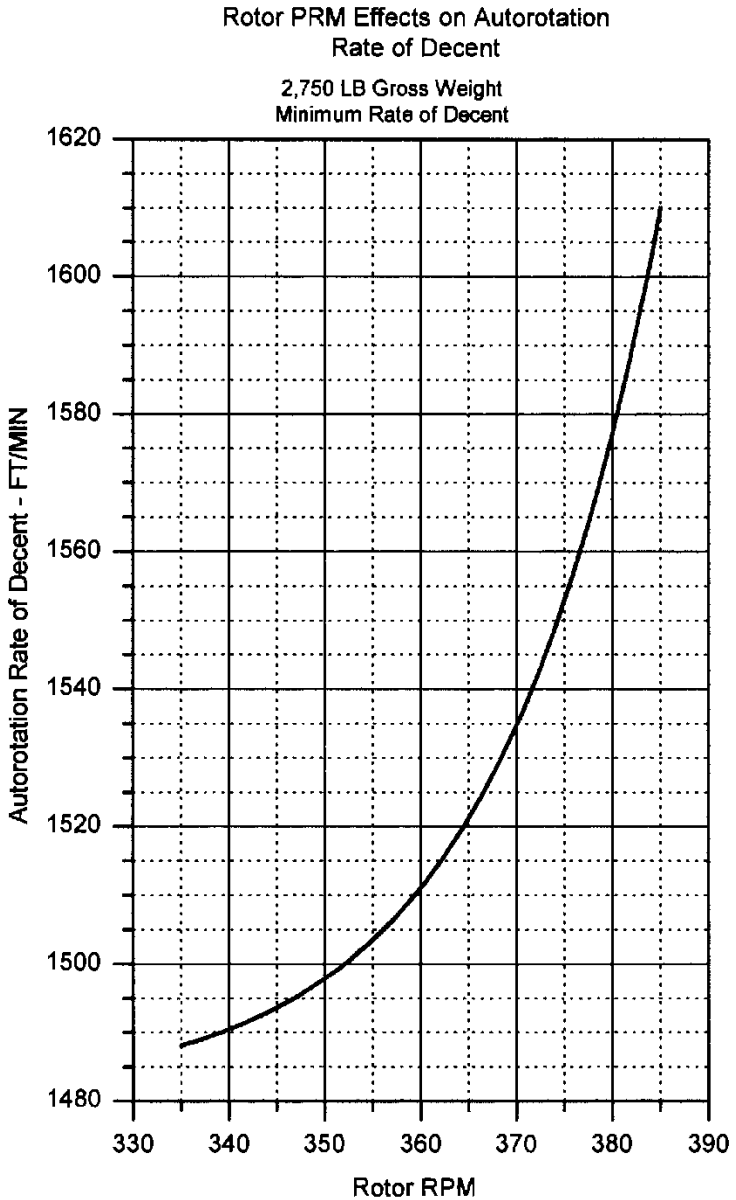

Figure 4-16. Rate of Decent vs. Rotor RPM (Autorotation)
1. Below 6,000 feet density altitude, the minimum rate of descent is attained at an indicated airspeed of approximately 50 KIAS and 334 rotor RPM. Above 6,000 density altitude the airspeed for minimum rate of descent decreases 2 knots per 1,000 feet (See Figure 4-16). At airspeeds below 50 KIAS the rate of descent increases and glide distance decreases.
1. The maximum glide distance is attained at an indicated airspeed of approximately 80 KIAS and 334 rotor RPM at sea level. The airspeed decreases 2 knots for each 1,000 feet density altitude above sea level (see Figure 4-16). Refer to Figure 4-17, Maximum Glide Distance in Autorotation, for glide distance in autorotation.